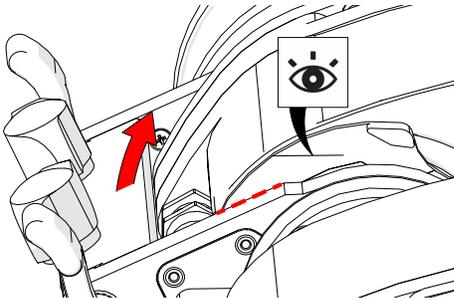

Fig. 22 - Align swivel mount with horizontal etched line
3. Adjust the right drive module swivel mount to align slightly below the horizontal etched line (Fig. 22).